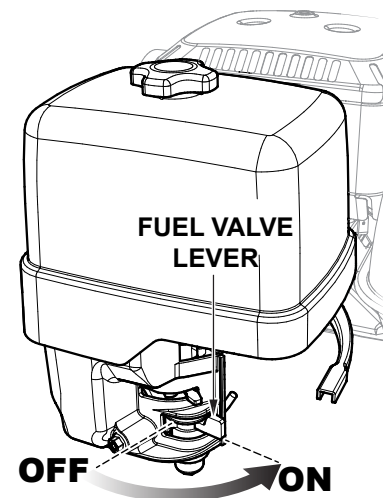

Figure 18. Fuel Valve Lever (ON)
2. Place the fuel valve lever (Figure 18) to the ON position.